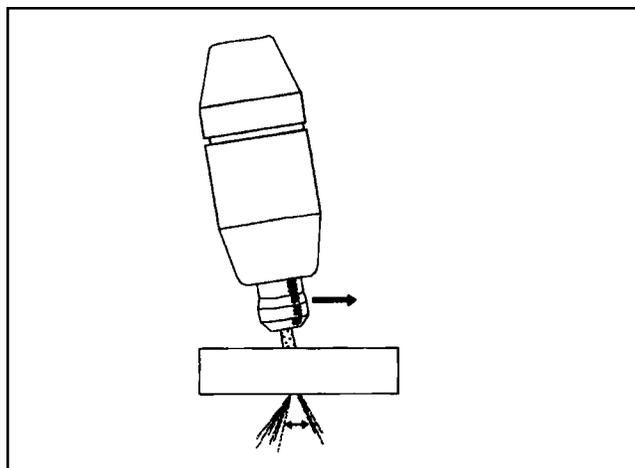

Figure 3-2. Recommended Torch Angle of 5° to 15°
- D. After starting the cut, the torch should be maintained at a 5-15° forward angle (Figure 3-2). This angle is especially useful in helping to create a "drop" cut. When not using the standoff guide, the nozzle should be held approximately 1/4 inch from the work.